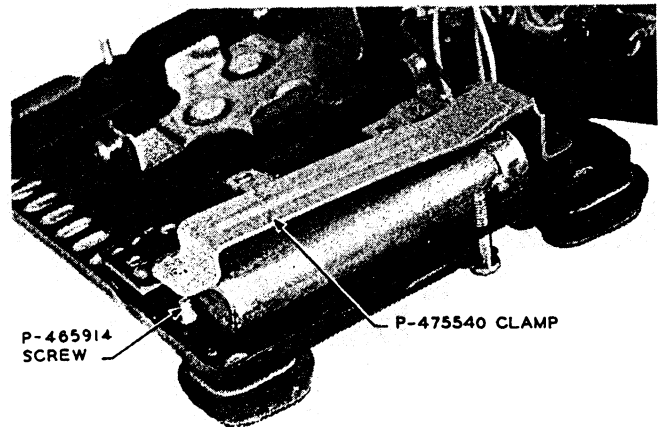

Fig. 27 — Capacitor Assembly
3.14 The 195-type capacitor in the 300 series telephone set for indoor locations is mounted as shown in Fig. 27.